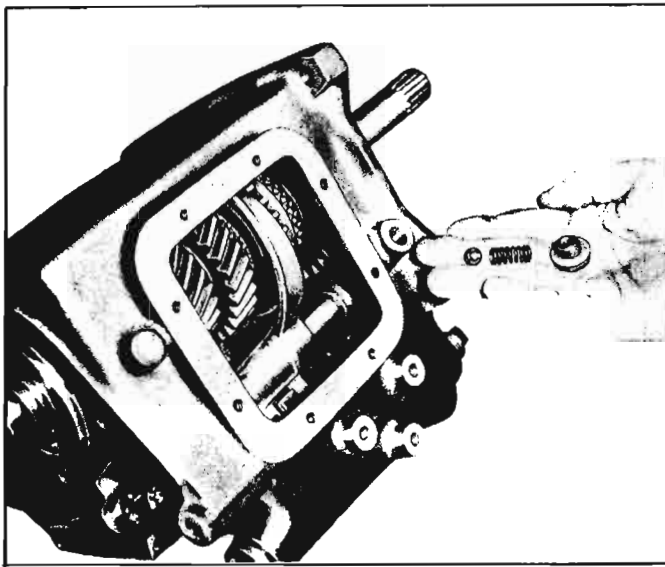

Fig. 6D-30—Removing 3-4 Shift Fork Detent Components
2. Remove plug, detent spring, and ball from 3-4 detent channel (fig. 6D-30) at the left-rear of the case.